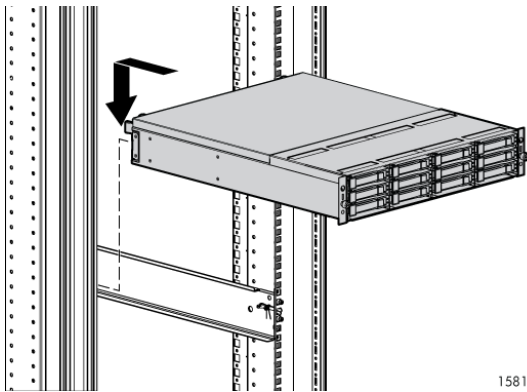

Figure 9 Installing an enclosure — view from front of rack
2. Align the enclosure with the rails and slide it into the rack (Figure 9).